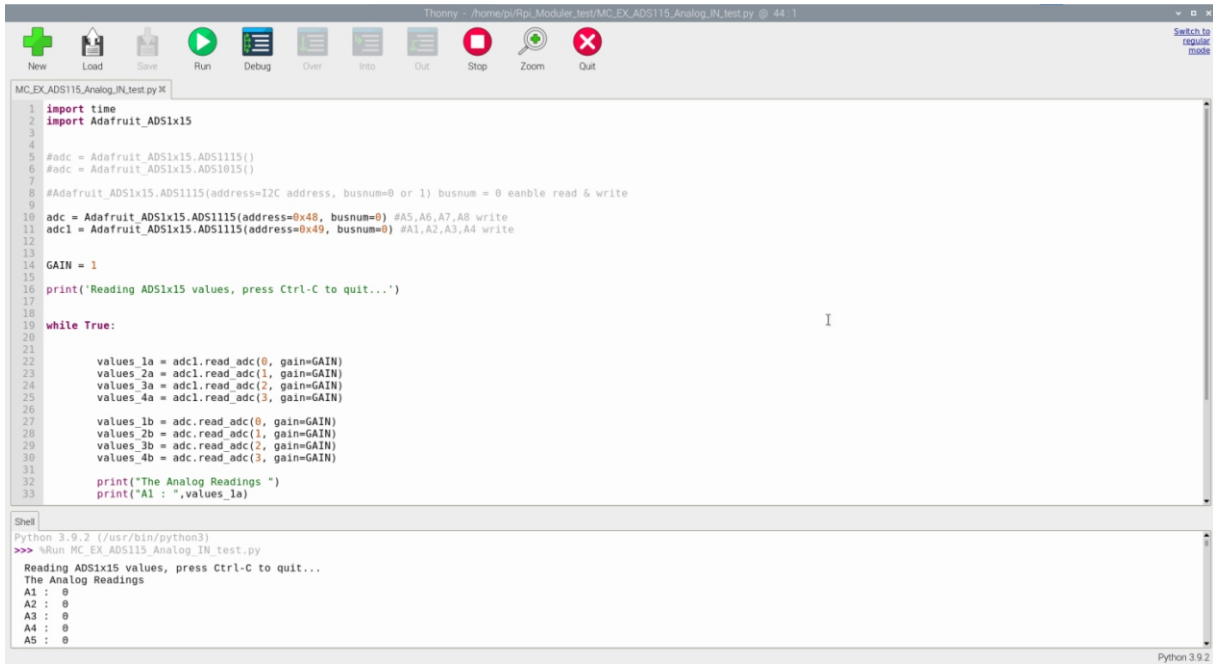

Figure 4: Analog Input example code run on Thonny Python IDE.
5. The python program will open on default Thonny Python IDE. Click RUN for start the program shown in Figure 4.